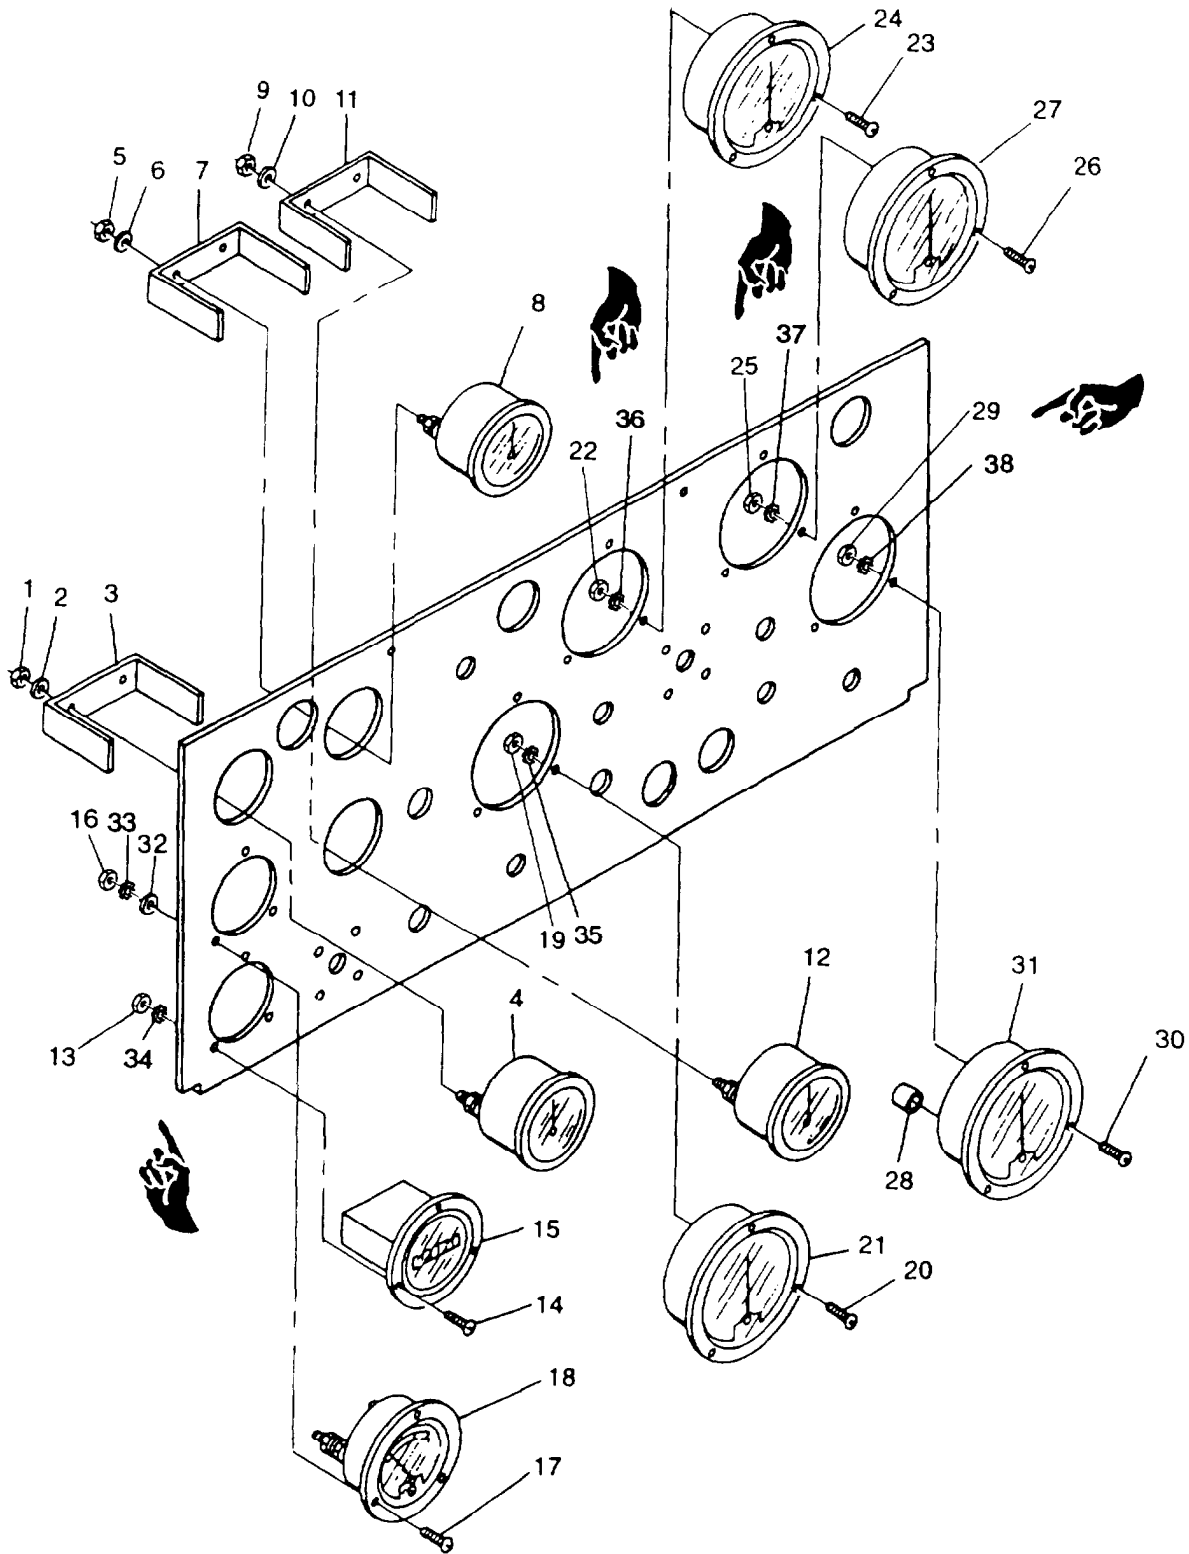

FIGURE 2-12. Control Panel Indicators
- d. Tag and disconnect COOLANT TEMP. indicator (8, FIGURE 2-12) electrical leads.
- e. Remove nuts (5), washers (6), and clamp (7).
- f. Remove COOLANT TEMP. indicator (8) from control panel.
- a. Insert COOLANT TEMP. indicator (8, FIGURE 2-12) in control panel.
- b. Install damp (7), washers (6), and nuts (5).
- d. Tag and disconnect OIL PRESSURE indicator (12, FIGURE 2-12) electrical leads.
- e. Remove nuts (9), washers (10), clamp (11), and ground wire.
- f. Remove OIL PRESSURE indicator (12) from control panel.
- a. Insert OIL PRESSURE indicator (12, FIGURE 2-12) into control panel.
- b. Install clamp (11), washers (10), and nuts (9).
- d. Tag and disconnect time meter (TOTAL HOURS) (15, FIGURE 2-12) electrical leads.
- e Remove screws (14), washers (34), and nuts (13)
- f. Remove time meter (TOTAL HOURS) (15) from control panel
- a. Insert time meter (TOTAL HOURS) (15, FIGURE 2-12) into control panel
- b. Install screws (14), washers (34), and nuts (13)
- d Tag and disconnect BATTERY CHARGE ammeter (18, FIGURE 2-12) electrical leads
- e Remove nuts (16), washers (32, 33), and screws (17)
- f Remove BATTERY CHARGE ammeter (18)
- a Insert BATTERY CHARGE ammeter (18, FIGURE 2-12) into control panel
- d. Tag and disconnect FREQUENCY meter (HERTZ) (21, FIGURE 2-12) electrical leads.
- e. Remove nuts (19), washers (35), and screws (20).
- f. Remove FREQUENCY meter (HERTZ) (21) from control panel.
- a. Insert FREQUENCY meter (HERTZ) (21, FIGURE 2-12) into control panel.
- b. Install screws (20), washers (35), and nuts (19).
- d. Tag and disconnect ammeter (PERCENT RATED CURRENT) (24, FIGURE 2-12) electrical leads.
- e. Remove nuts (22), washers (36), and screws (23).
- f. Remove ammeter (PERCENT RATED CURRENT) (24) from control panel.
- a. Insert ammeter (PERCENT RATED CURRENT) (24, FIGURE 2-12) into control panel
- b. Install screws (23), washers (36) and nuts (22).